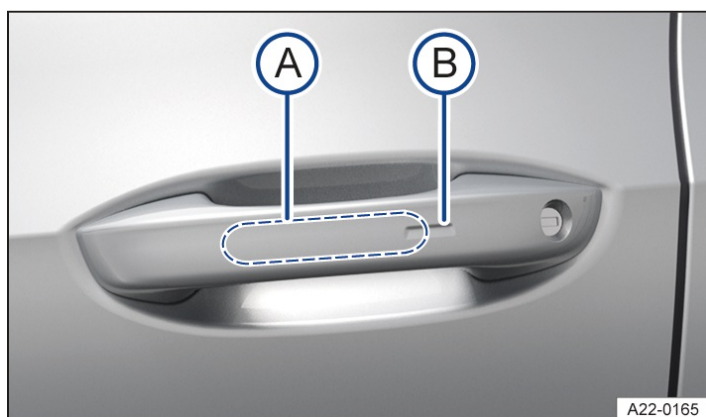

Fig. 2 In the door handle: sensors.
1. Touch the sensor on the inside of the door handle → Fig. 2 (A). All turn signals flash twice.
2. Touch the sensor on the outside of the door handle → Fig. 2 .
2. Touch the sensor on the outside of the door handle → Fig. 2  once within 5 seconds. Do not put your hand around the door handle when doing this.